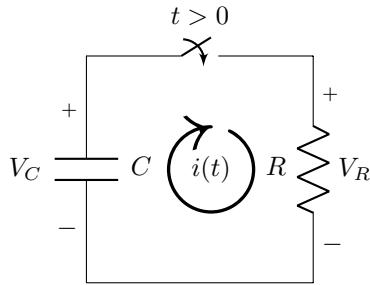

Figure 4.1: RC Circuit
A. For the circuit in Figure 4.1: